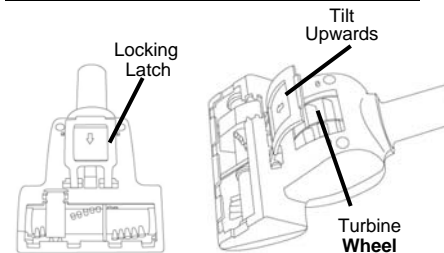

Fig. 10
2. Turn turbo brush over and open the hinged cover to access the turbine wheel. (Fig. 10)